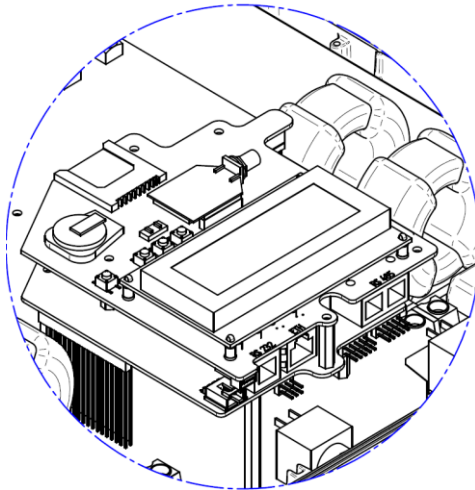

Figure 20: Ethernet and RS485 Connectors
- Connect the Ethernet connector to the RJ45 plug on board in the inverter, as shown in Figure 20.